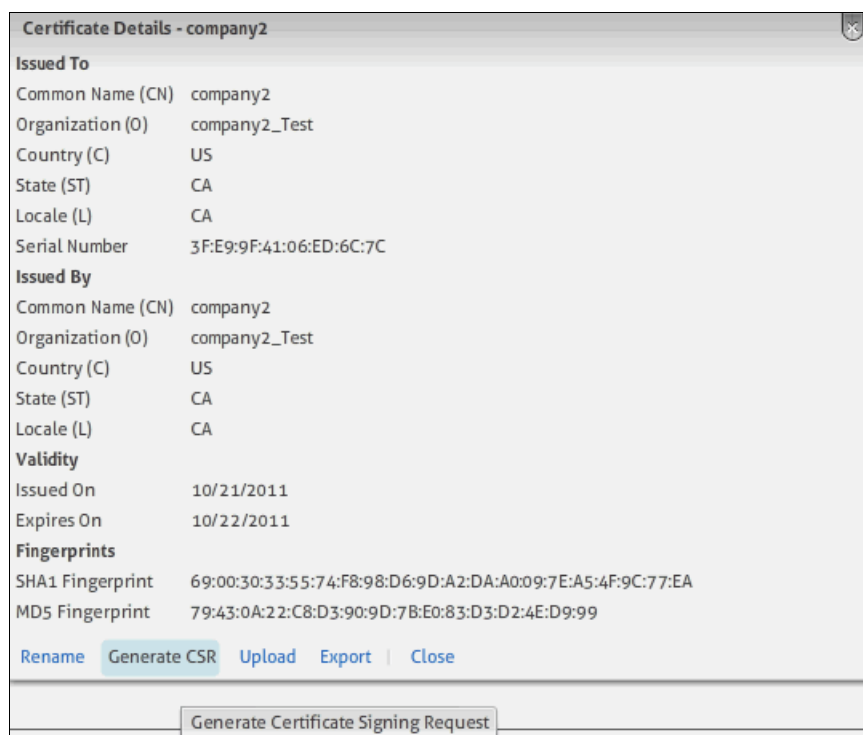

Figure 5-50 Upload the CA certificate
2. Verify that the certificate contains the correct information for the request, and click **Upload** to upload the certificate received by the CA to the run time, as shown in Figure 5-50.
4. You are routed back to Figure 5-50 (still with the old values). Click **Close**.